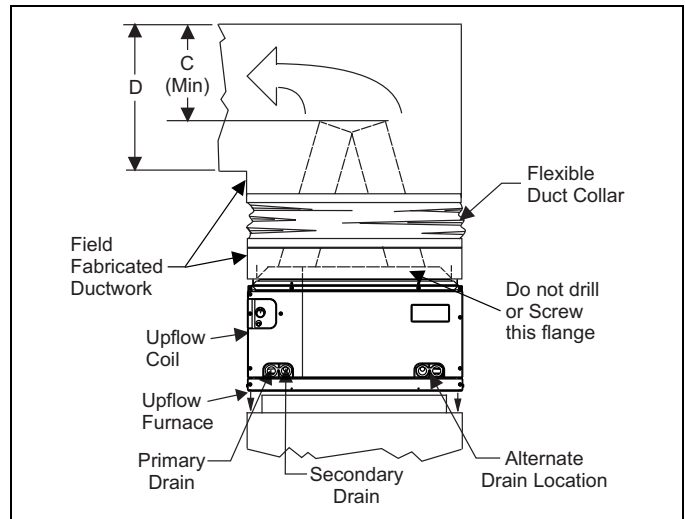

FIGURE 11: PC Series Upflow Coil Installation
1. Position the coil casing over the furnace opening as shown in Figure 11.
Do not drill any holes or drive any screws into the front duct flange on the coil in order to prevent damaging coil tubing. See Figure 11.
Dimension "C" should be at least 2/3 of dimension "D". See Figure 11.